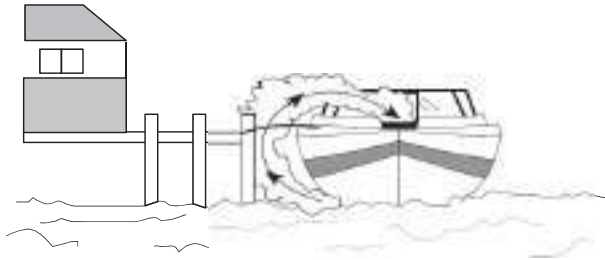

Figure 2.1 - Running engine or generator in confined areas
**DANGER:** Blocked hull exhaust outlets near a pier, dock, sea wall bulkhead or any other means can cause excessive accumulation of poisonous carbon monoxide gas within the cabin areas. Make sure hull exhaust outlets are not blocked. (Figure 2.1)